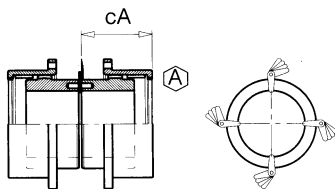
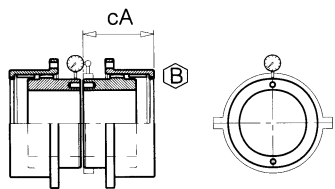

Fig. 01
Fig. 02
- Determine the angular misalignment value processing, in accordance with the tables, the measurements of the head parallelism between the reference frontal surfaces of the two hubs. For this purpose, by inserting the thickness gauge between the heads of the two hubs, perform a first 360° test to identify the position and the min and max entity of the distance between the hubs. After defining the extreme positions, perform a precise measurement of 4 points at 90°, like \mathbb{A} in FIG 01. The max difference between two values at 180° is ΔA . Determine the parallel misalignment value processing, according to the tables, the mutual eccentricity between the reference diameter of the two hubs. For this purpose, rigidly fasten the test indicator on a band in two halves to the reference diameter of a hub, like \mathbb{B} in FIG 02. Verify that the whole unit, during a 360° rotation, does not have any clearance, afterwards measure the min and max eccentricity. The max difference is ΔP .